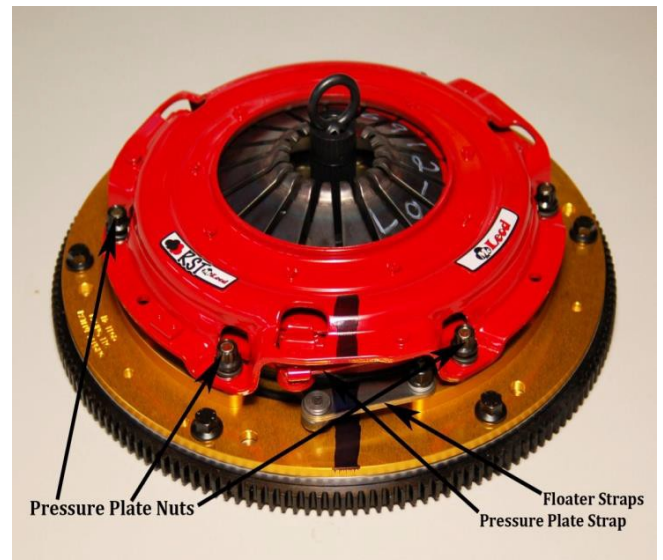

Figure 6
- 9) Install the pressure plate onto the studs on the adapter ring, pay special attention to the alignment of the drive straps on the floater and the drive straps on the pressure plate! They should sit over the top of each other. All drive straps must be seen in the same raised opening on the side of the pressure plate. Alignment mark on Adapter ring and pressure plate must line up at this time. Do not offset the drive straps!! Figure 6